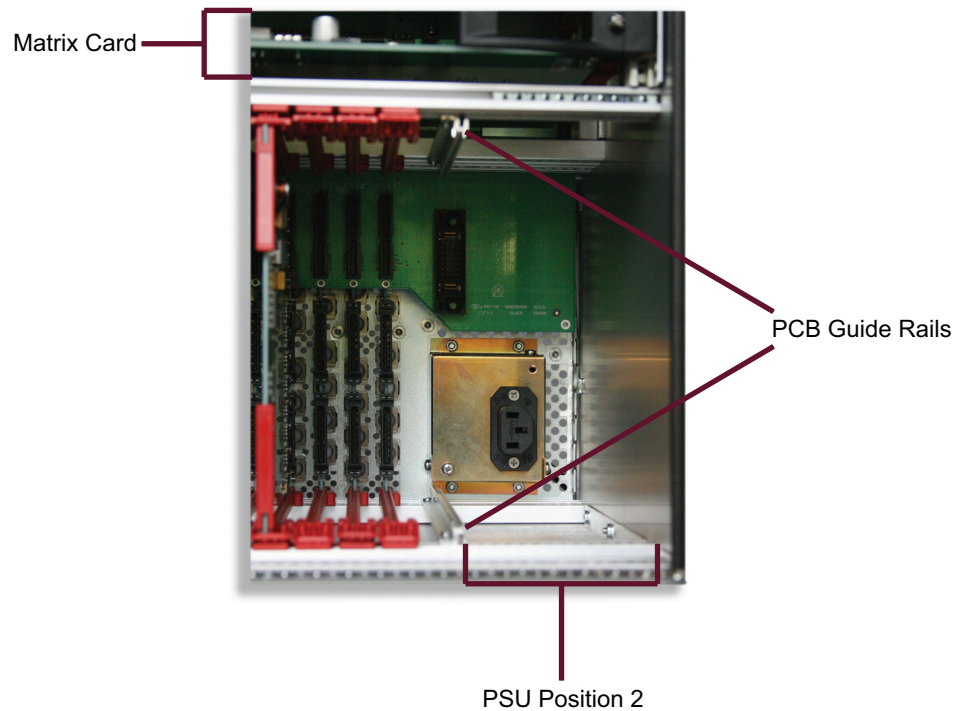

Figure 4.2 PSU position in the frame
3. Locate the spare position for the PSU (see **Figure 4.2**).